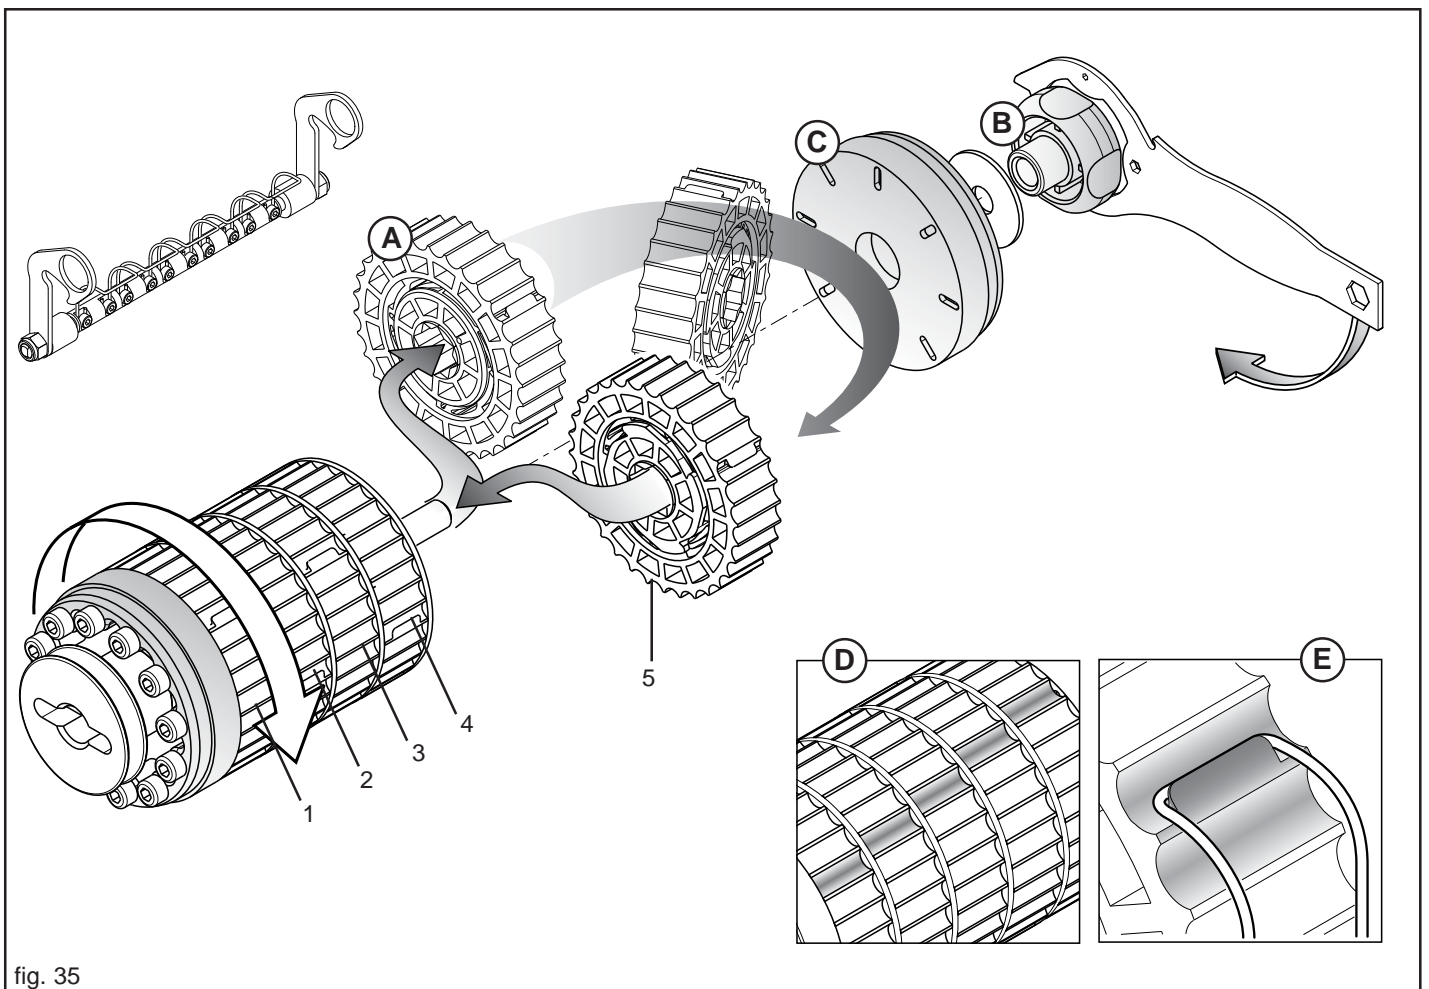

fig. 35
Considering that every section (A, Fig. 35) of the dosing roller distributes 20% of the product contained in roller itself, the number of operating sections can be increased and the gearbox rotation speed reduced to obtain more homogeneous distribution.
First, take the dosing roller off the machine. Then, unscrew the knob (B, Fig. 35) using the supplied wrench and remove the lock nut (C). Extract the section(s) to be activated and put them back in **their positions** (1-2-3-4-5, Fig. 35) turning them by 180°.
When re-assembling the sections, make sure that during operation the dosing grooves of the active sections are staggered from one another (D, Fig. 35). This will give continuity to distribution.
Block the cleaning element in the operating position and make sure that the springs hook the previously excluded sections (E, Fig. 35) preventing their rotation and consequently distribution.